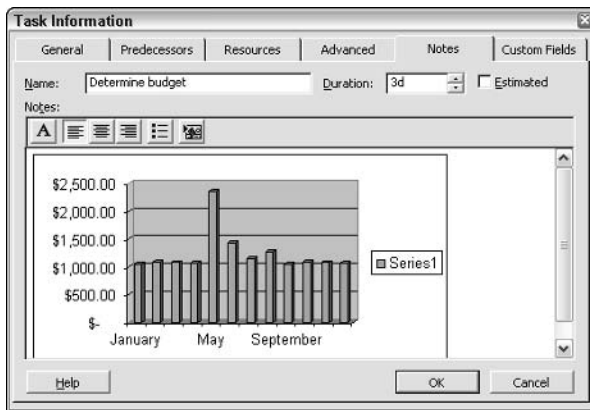

Figure 8-36: You can copy any image that you place on the Windows clipboard into Project.
5. Right-click in the area where the note would appear, and from the submenu that appears, click Paste. The chart alone appears on the Notes tab, as shown in Figure 8-36.
You can fill-color and pattern-fill the inside of a drawn object and the background area of clip art or other predrawn graphic object. The Preview box of Figure 8-36 demonstrates how a fill pattern surrounds the clip art object — filling the background of the object rather than filling the object itself.